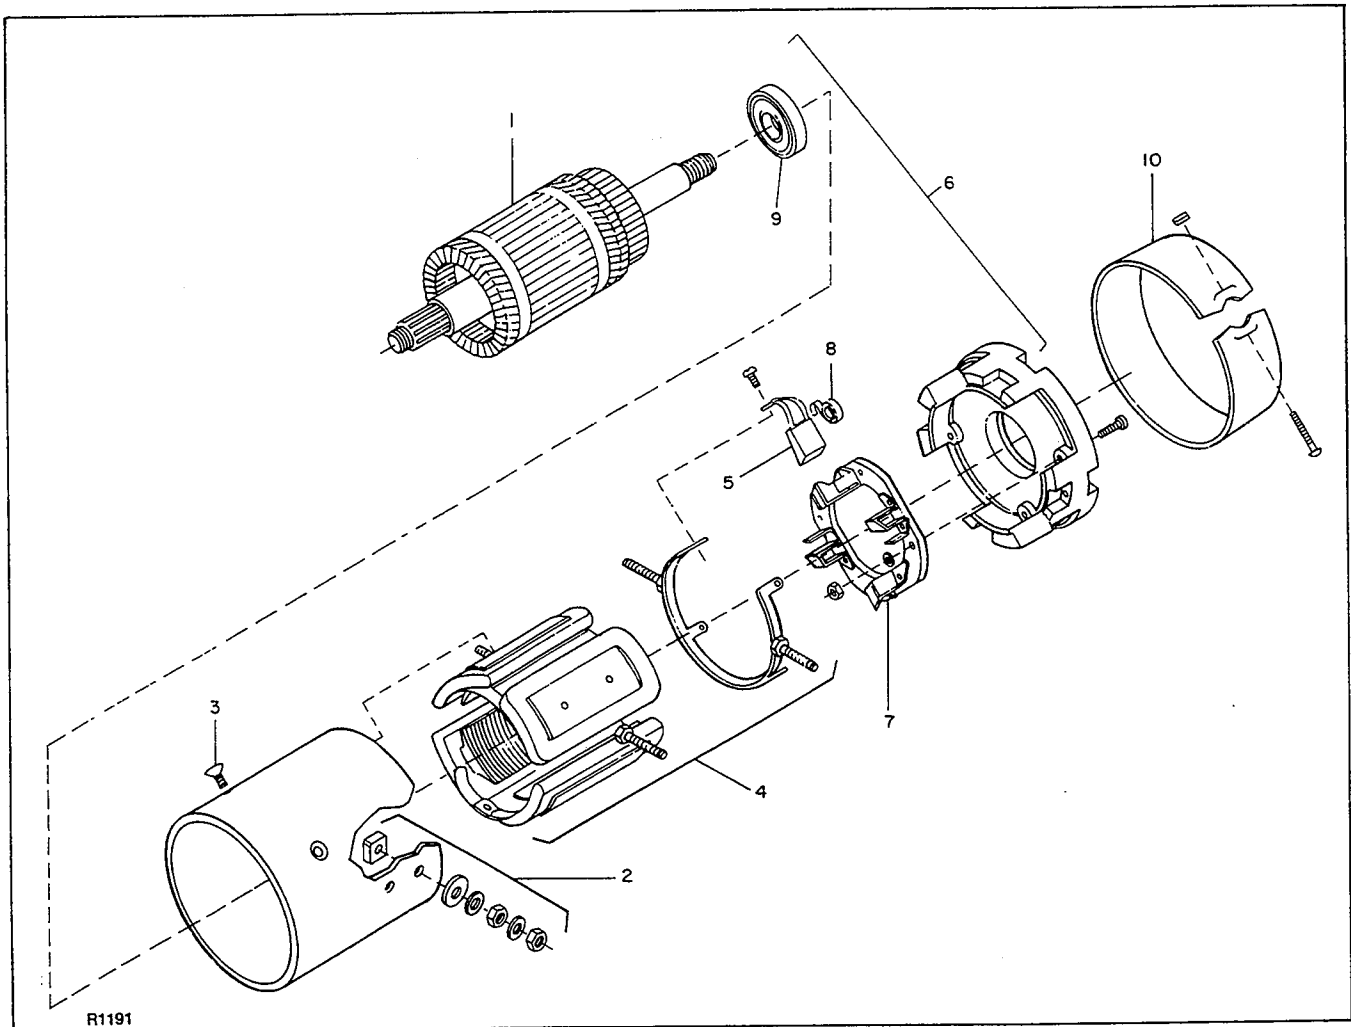

Figure 3-16. Drive Motor
6. Continue disassembly of motor, using figure 3-16 as a guide.
3-25. Drive Motor Repair. (Figure 3-16)